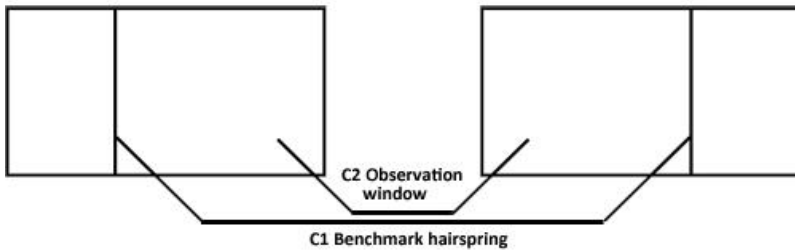

Figure 4
3.3 Viewing from Measuring Window (see figure 4 on next page)